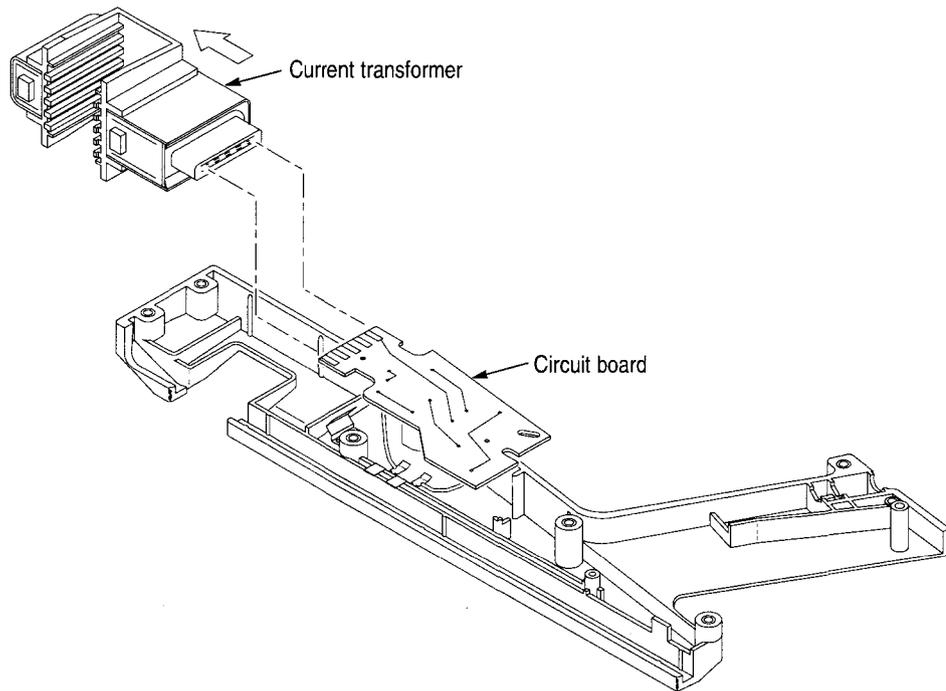

Figure 1: Removing the current transformer
6. To remove the current transformer, lift the assembly out of the probe as shown in Figure 1 and unplug it from the circuit board.